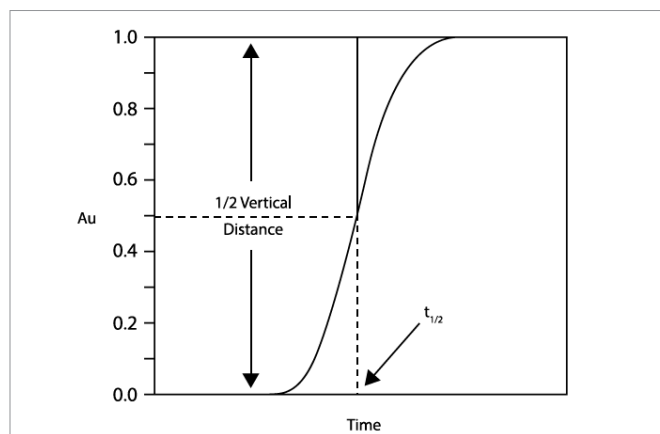

Figure 11. Determination of Gradient Delay Volume.
6. Determine the dwell time by first locating the time at the midpoint of the formed gradient ($t_{1/2}$) (half the vertical distance between the initial and final isocratic segments as shown in Figure 11).
8. Convert the dwell time (t_d) to the dwell volume (V_d) by multiplying by the flow rate (F).